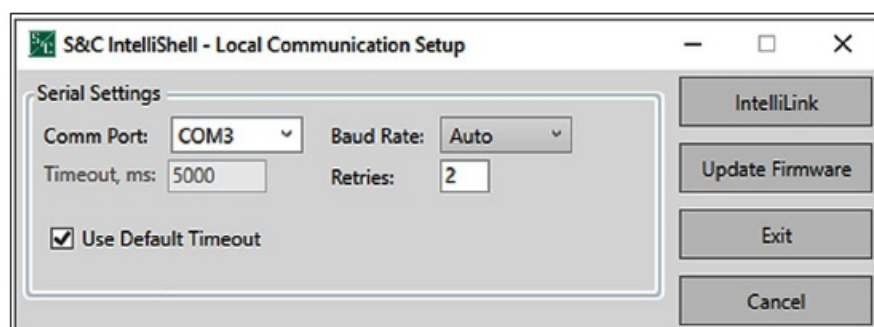

Figure 14. The S&C IntelliShell—Local Communication Setup dialog box.
- Click on the Update Firmware button. See Figure 14.